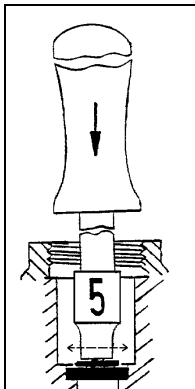

Figure 5-22: Tilting the Flow Restrictor
4. Using a 5mm nut driver, press and tilt the restrictor to the side (see Figure 5-22).